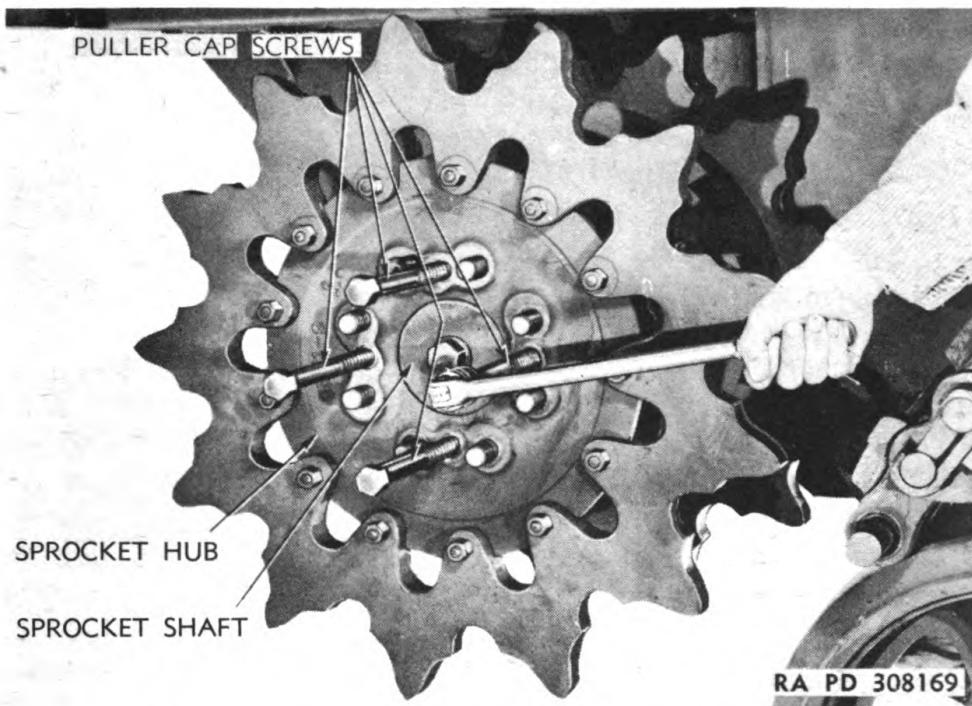
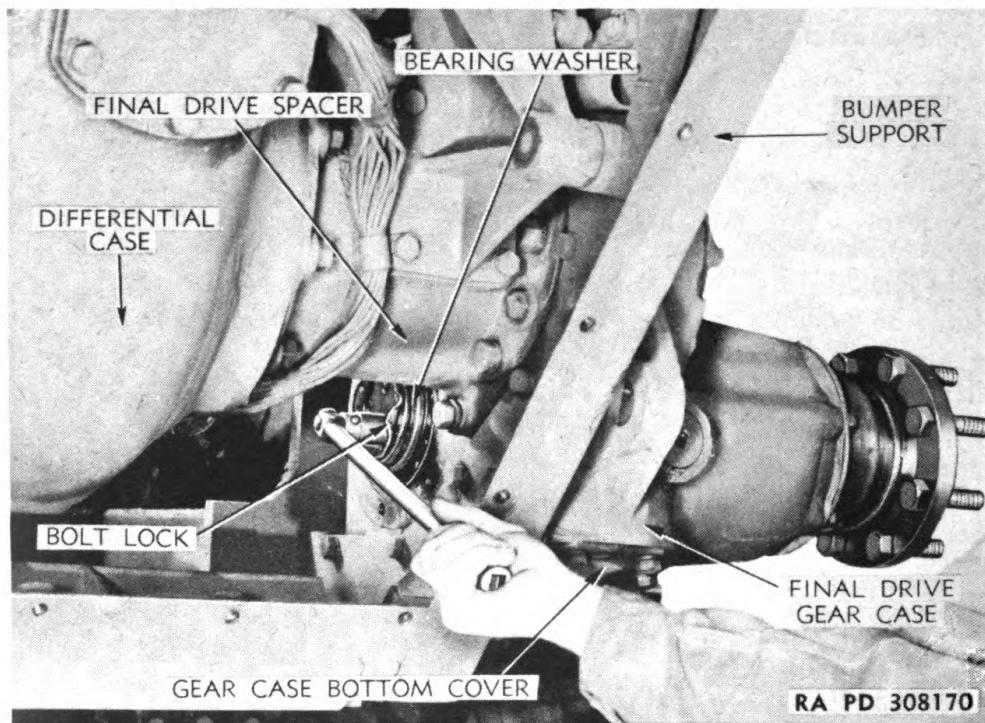

Figure 67 — Removing Sprocket Hub Assembly
Figure 68—Removing Bearing Lock and Washer
- b. Removal of Complete Final Drive Assembly (fig. 68). Disconnect tracks. Remove front plate from bumper supports by removing the 22 retaining cap screws. Place blocks between bottom of hull and differential case to support weight of differential and transmission. Remove the 10 bolts that attach final drive case to bumper
(1) **REMOVE SPROCKET SHAFT ASSEMBLY.** Drain oil from gear case and disconnect track. Remove the four puller hole plug cap screws from sprocket hub and install 4 puller cap screws (BCSX2CT) in their places (fig. 67). Turn these cap screws in evenly to force sprocket hub from shaft. Lift off hub. Remove front plate from bumper supports by removing 22 cap screws. Remove bottom cover from gear case by removing 12 cap screws. Remove the 6 cap screws from inner shaft bearing cap and remove the cap. Bend bearing washer bolt lock away from cap screw heads and remove the 3 cap screws (fig. 68) and the lock, bearing washer, and adjustment shims. Remove the 6 cap screws from seal guard and plate at outer hub of case, then remove the puller hole plug bolt from center of sprocket shaft and install the adapter (A-347829) for shaft puller (41-P-2957-100) (fig. 147) tightly in its place. Screw bolt of shaft puller tightly into adapter and operate sliding ram to pull shaft out of inner bearing. After shaft has been pulled out of inner bearing, remove shaft puller
d. Install Sprocket Shaft and Final Drive Gear. Insert final drive gear into gear case and support gear with center of gear in line with holes for shaft. Cement gasket to seal plate, then insert sprocket shaft through case, turn shaft so splines in end of shaft line up with splines in gear, and push shaft through gear. Install spring washer, bearing spacer, bearing cone, and roller assembly on inner end of shaft, then install bearing adjustment shims totaling 0.075 inch in thickness, bearing washer, and bolt lock at end of shaft with 3 cap screws (fig. 68). Adjust bearings so there is no end play in shaft and shaft can be turned by hand with a very slight drag. This adjustment is made by removing or adding shims under bearing washer. When correct adjustment of bearings has been made and cap screws in end of shaft tightened, bend sides of bolt lock against cap screw heads.